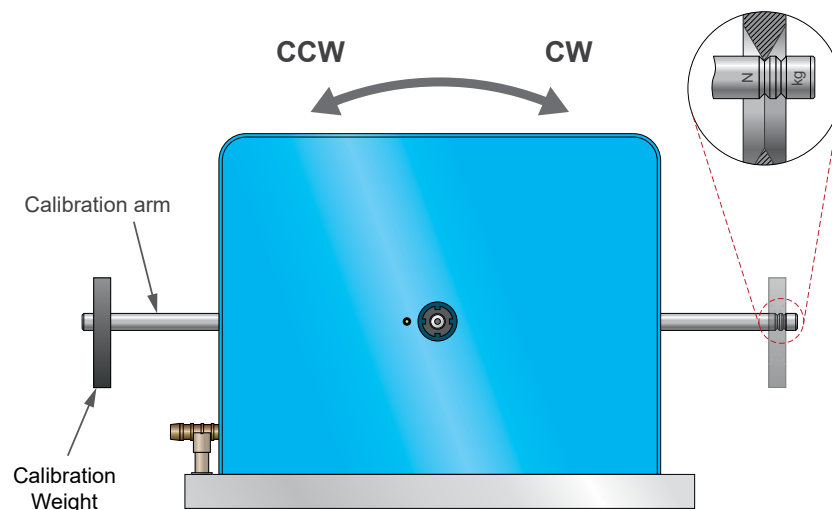

Fig.7-6 Identify the calibration direction
On your WB 32 dynamometer, identify the clockwise and counterclockwise sides (see Fig.7-6).
8. Identify the clockwise and counterclockwise sides (*see Fig.7.6*)